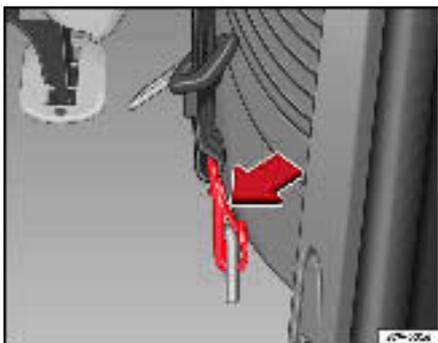

Fig. 18 Retainer with spring hook for the detachable seat belt
- Push the the spring hook ⇒ fig. 18 in the direction of the arrow and remove the hook by pulling down.